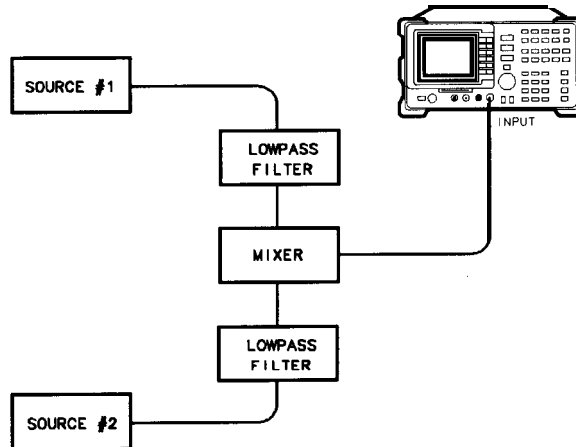

Figure 4-23. Third-Order Intermodulation Equipment Setup
1. Connect the equipment as shown in Figure 4-23.